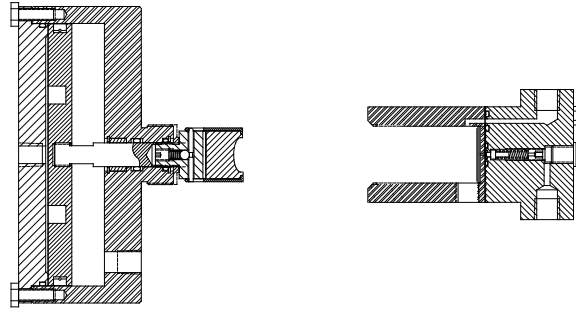

FIGURE 5
- 3.2.4 Unscrew the complete motor housing from the sampler body (see Figure 5).